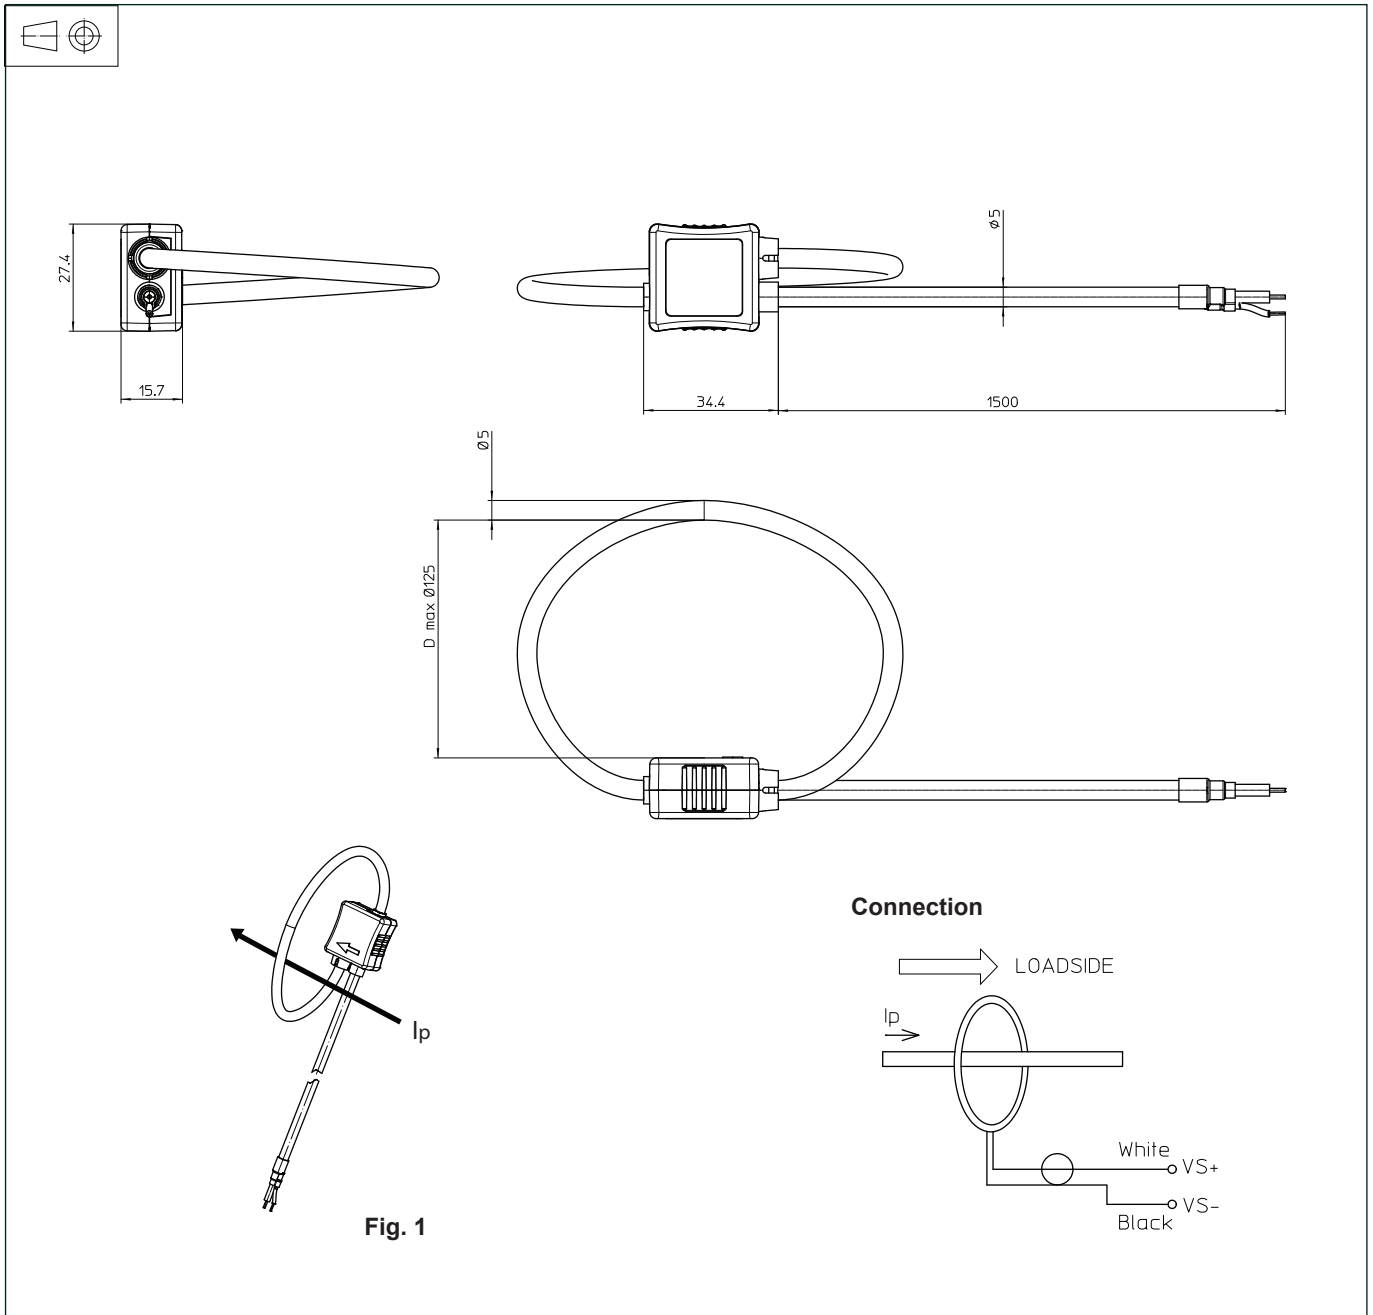

Fig. 1
- $V_{OUT} = V_{S+} - V_{S-}$ is positive when di_p/dt flows in the direction of the arrow (see fig. 1)